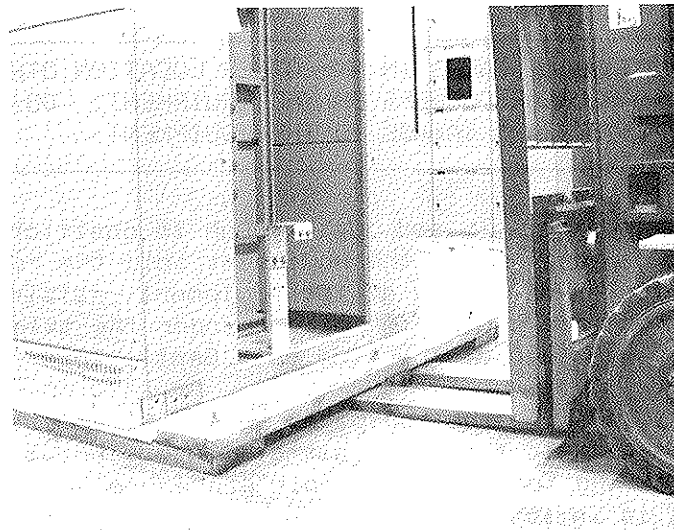

Fig. II-4. Place tines under skid.
2. Carefully insert tines of forklift below one side of the line-up at the approximate center of the skid as shown in Fig. II-4.